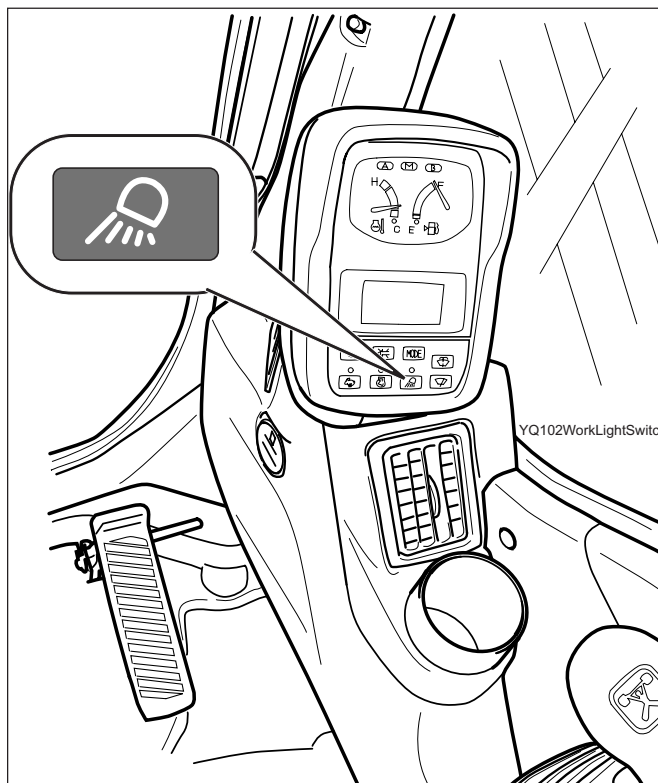

FIGURE 2.8A
6. Working Light Selector Switch — FIGURE 2.8A
This light selector switch is located on the lower side of the monitor as shown in Fig. 2-8A.